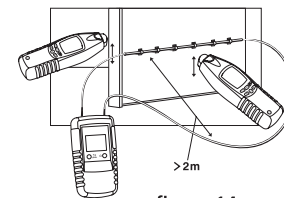

figure 14
- Connect the transmitter in compliance with figure 14.